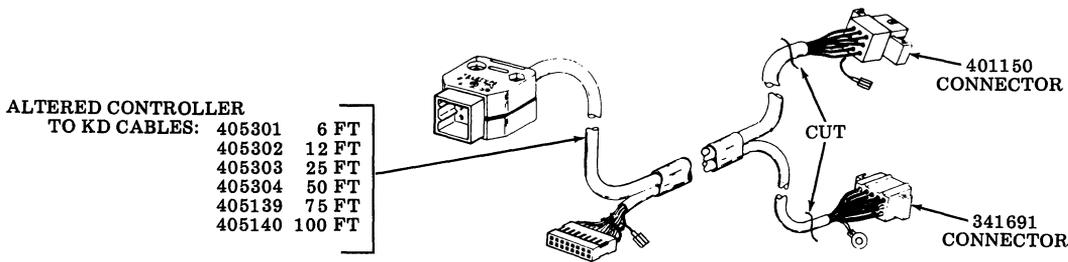

Fig. 8— Controller to KD Cable Alteration
4.04 When a KDA is to be used, alter the controller to KD cable by cutting off the 401140 and 341691 connectors (Fig. 8).